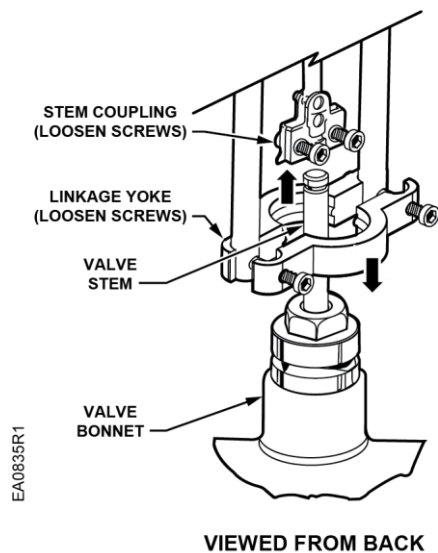

Figure 3. Mounting the Linkage/Actuator Assembly on a Valve.
2. Use the 5 mm hex wrench to loosen the nuts in the linkage stem coupling. Use the 1/4-inch Allen wrench to loosen the nuts in the linkage yoke. See Figure 3.
3. Orient the linkage over the valve bonnet. See Figure 3.